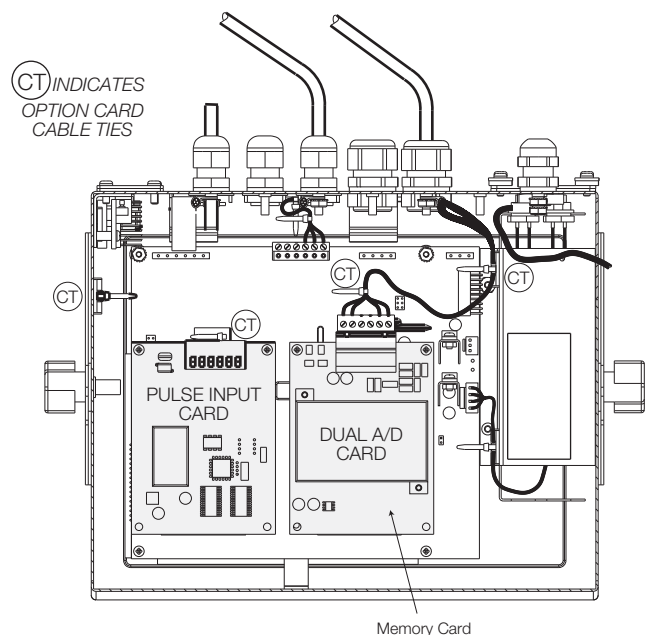

Figure 2-8. Installed Option Cards, Showing Secured Cables
4. Make connections to the option card as required. Use cable ties to secure loose cables inside the enclosure as shown in Figure 2-8. When installation is complete, reassemble the enclosure as described in Section 2.6 on page 15.